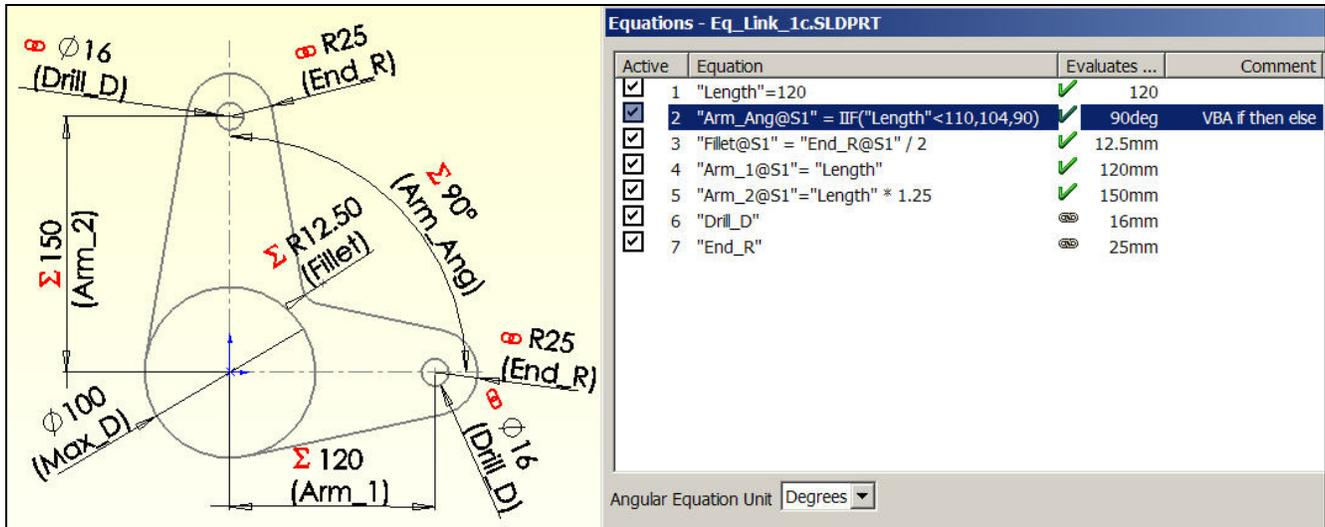

Figure 11 Original configuration of the sketch
The remainder of the final geometry construction (found in Figure 11) begins by locating another drill hole on the second centerline at **Arm_Ang**. The design intent calls for this hole to move with the second centerline and to be the same size as the first drill hole:
- Where the two tangent lines cross, add a fillet, name its dimension **Fillet**, and use **Add Equation** to set its value to half the radius **End_R**. See Figure 11 for the starting sketch.